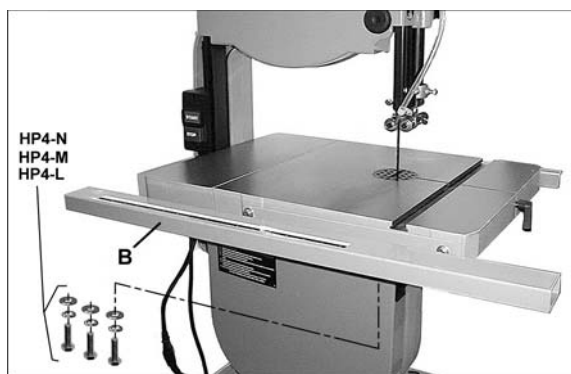

Figure 27
- Install *guide rail* (B, Figure 27) to the slots in the front rail using three *M6x20 hex cap screws* (HP4-L), three *1/4" lock washers* (HP4-M) and three *1/4" flat washers* (HP4-N). Tighten with a 10mm wrench.
3. If *major adjustment* is necessary, loosen the guide rail screws (HP4-L, Figure 27), and slide the entire fence/guide rail together until the fence just contacts the blade. Re-tighten guide rail screws, and make further minor adjustment with the pointer.